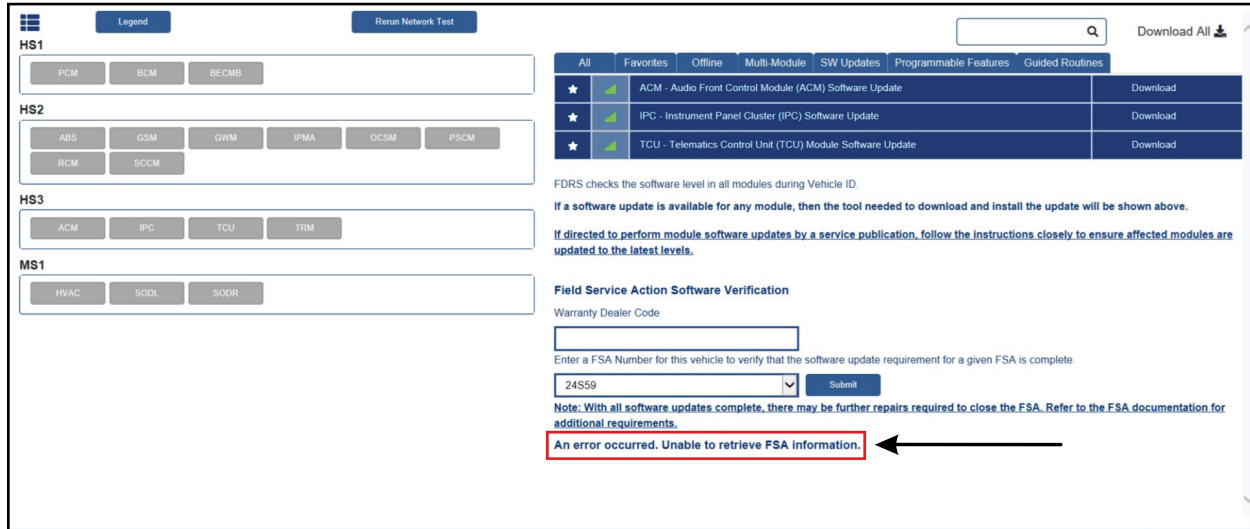

FIGURE 4
22. If the FDRS Field Service Action Software Verification Status displays **"An error occurred. Unable to retrieve FSA information"**, please reattempt to generate an SVC code. The error can be caused by a connectivity or server issue where the status of the FSA cannot be verified. This is typically resolved upon reattempting to generate an SVC code. See Figure 4.